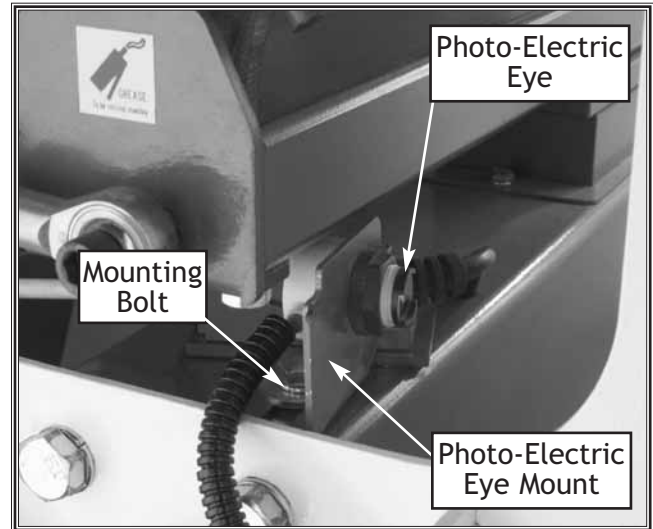

Figure 12. Photo-electric-eye assembly.
The photo-electric eye senses when the belt oscillates to the right and blocks the beam to and from the reflector. See **Figures 12 and 13**. As soon as the sanding belt obstructs the beam, a piston changes the direction of belt movement to the left. Should the adjustment of the photo-electric eye become skewed, you can readjust the eye.
6. Loosen the photo-electric eye mounting bolt. See **Figure 12**.
7. Position the mount so the photo-electric-eye beam is barely obstructed by the edge of the belt, pointing at the reflector, and you hear the electric solenoid click and the piston pushes the pushrod outward. See **Figures 12 and 13**.